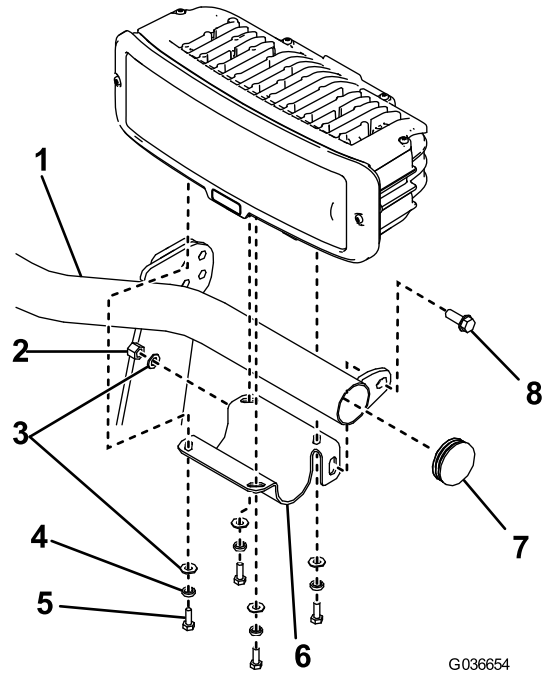

Figure 11
2. Ensure that the end caps are installed on the ends of the light bar (Figure 11).
3. Secure the left headlight-bracket to the light bar using a flange-head bolt (3/8 x 1 inch), a flat washer, and a nylon locknut (Figure 11). Torque the bolts to 31 N·m (23 ft-lb).
- Secure the left headlight to the headlight bracket using 4 bolts (1/4 inch), split lock-washers, and flat washers (Figure 11).